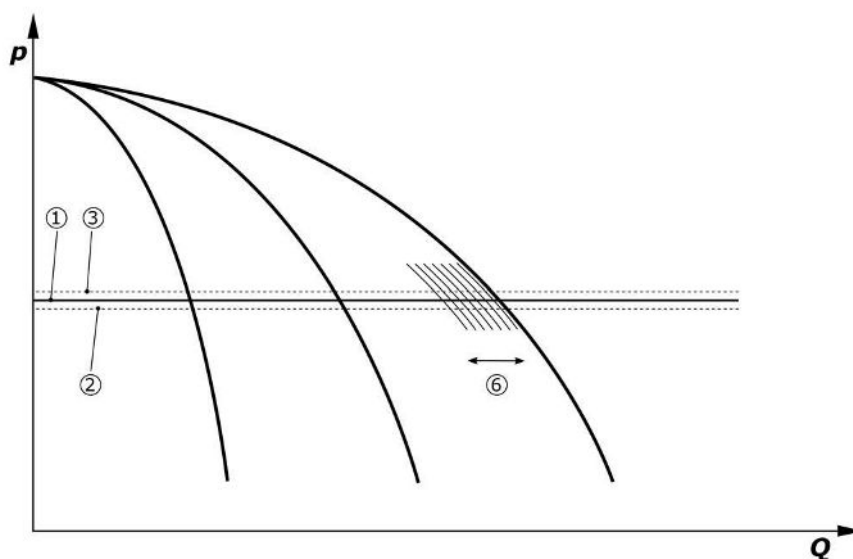

Fig. 7: Starting the third pump
If there is no “external off” message and no fault, and the drives and the automatic system are activated, one or more speed-controlled pumps (Fig. 7) start when the value falls below the activation threshold (2). The pumps run at a common, synchronous speed. Only pumps that are switching on or off may briefly run at a different speed.